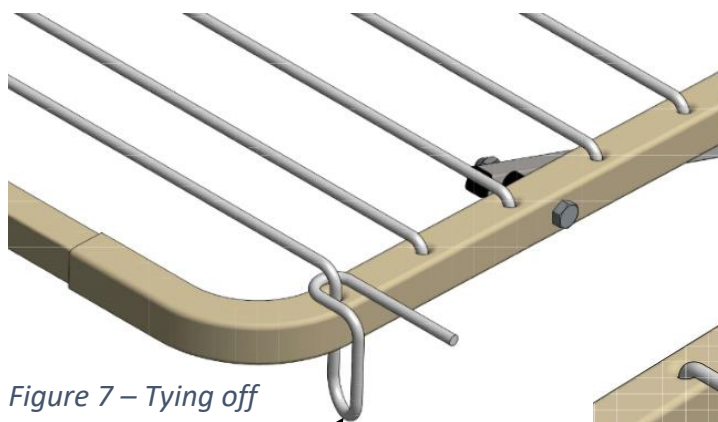

Figure 7 – Tying off
- Tie off as shown in the Figs 7 and 8.